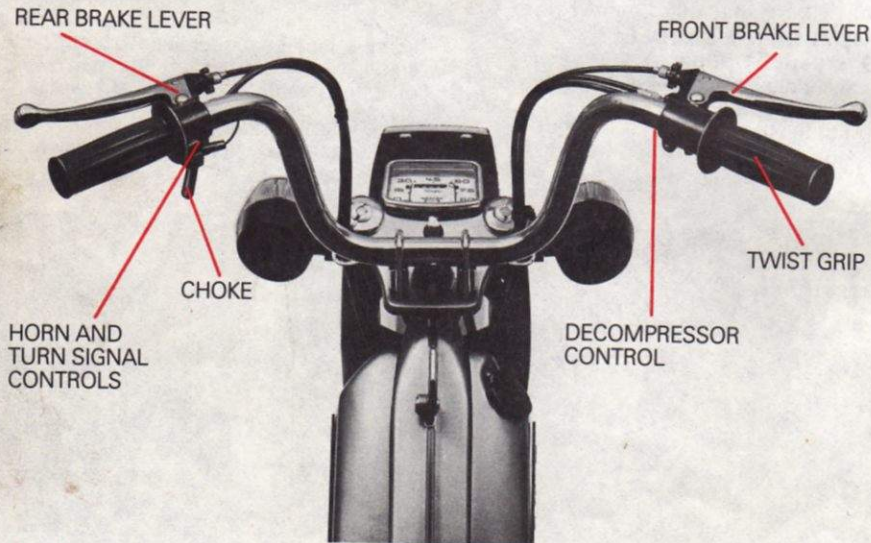

Fig. 2
To make cold starting easy squeeze the choke control lever on the LH side of the handlebar (Fig.2). You can squeeze this lever without putting hands off the handlebar. Squeeze the choke control a few seconds only. The choke lever comes back into position as soon as you release squeezing by means of a return spring. Insist on squeezing the control lever especially for cold starts and cold engine.
- 2°) Release compression by squeezing the lever on the RH side (Fig. 2) and pedal as on a bicycle keeping the throttle (Fig. 2) fully closed.